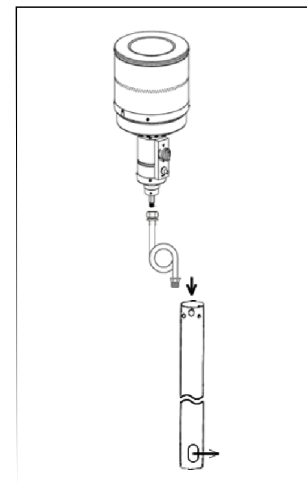

Figure 5
D. Attach natural gas hose (not included with heater) to heater head with a wrench. Leak-test connection. Run other end of hose down pole and out lower access hole (Figure 5).